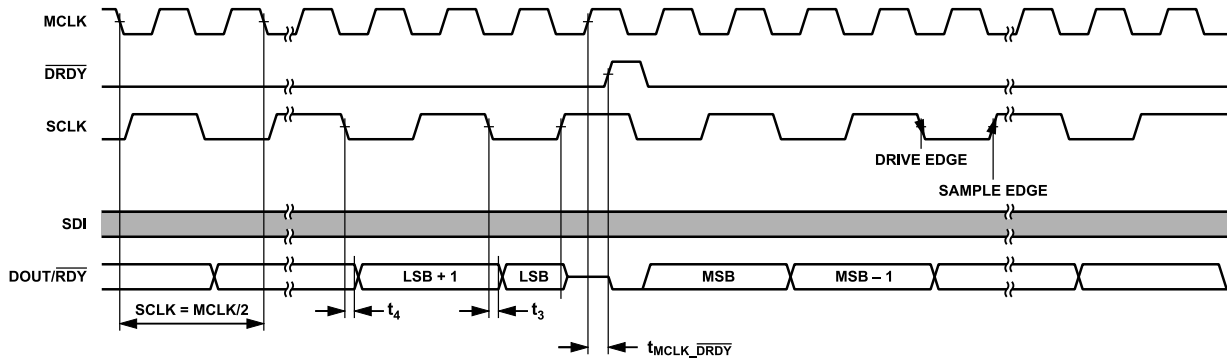

Figure 116. Recommended Interface for Reading Conversions, SPI Control, Continuous Readback Mode
The ADAQ7767-1 interface is flexible to allow the many modes of operation and for data output formats to work across different DSPs and MCUs. To achieve maximum performance, the recommended interface configuration for reading conversion results is shown in Figure 116. This recommended implementation uses a synchronous SCLK to MCLK relationship.
Figure 116 shows how the recommended interface operates. The data read back spans the entire length of the $\overline{\text{DRDY}}$ period, and the LSB remains until $\overline{\text{DRDY}}$ goes high for the next conversion.
2. Generate SCLK based on the $\overline{\text{DRDY}}$ or $\overline{\text{RDY}}$ timing. SCLK is high when the $\overline{\text{DRDY}}$ signal goes high and transitions on the MCLK falling edges (see Figure 116) to ensure that the LSB can be read correctly as the DOUT/RDY output is reset on the $\overline{\text{DRDY}}$ rising edge. However, SCLK rising occurs before this transition.
Because the full ODR period is for clocking data, the $\overline{\text{RDY}}$ signal no longer flags after each LSB outputs. This signal only flags if the ADAQ7767-1 is in continuous readback mode, or if the ADAQ7767-1 does not count 32 SCLKs within $1 \times t_{\text{MCLK}}$ before $\overline{\text{DRDY}}$, as is shown in Figure 116.